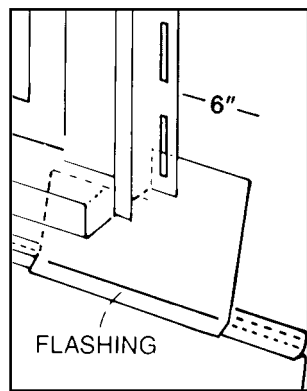

Fig 5.9
**5. FLASHING** Prevent water from getting behind siding. Cut a piece of flashing from coil stock and slip it under the nailing flange of the side J-Channels (Fig. 5.9). The flashing must be long enough to overlap the locking flange of the next lowest siding panel but should not interfere with the panel lock. Flash around doors and windows as necessary